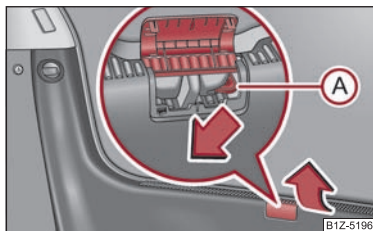

Fig. 30 Emergency unlocking of the boot lid
- Open up the cover of the lock upwards ⇒ fig. 30. ▶